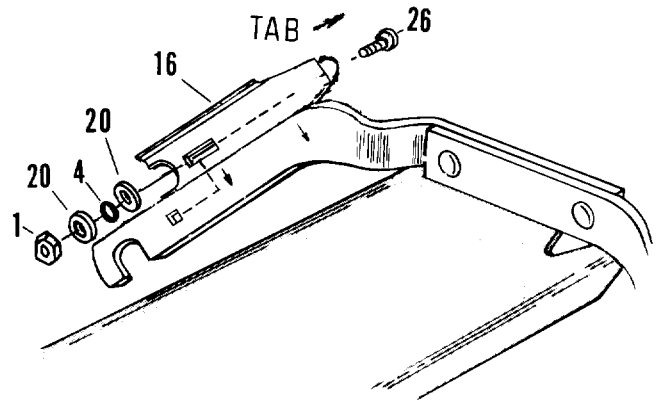

FIG. 5
Fig. 5. Place one latch (16) against the outside of both mount bars with the tab up (and facing outward) and the long slot located in front of the square hole near the mounting slot. Secure each latch with one 1/4" x 3/4" carriage bolt (26) - threads facing inward, a special washer (20), "O" ring (4), special washer (20) and 1/4" hex lock nut (1).